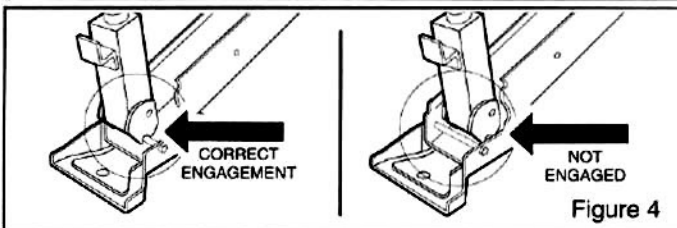

Figure 4
Push the floor jack with leveling jack assembly in towards the rear of the motorhome. Pump the floor jack up until the top of the leveling jack assembly is touching the motorhome frame. At the same time make sure the holes of the small angle brackets are aligned on either side of their respective vehicle frames as shown in figure 4. It may be necessary to slide the small angle brackets from side to side to position the holes correctly.
STEP 4. Install four U-bolts over the vehicle frame as shown in figure 4 making sure the bolts fit through the corresponding holes in the small angle brackets. Install the washers and locknuts but do not tighten.
IMPORTANT: If required ground clearance is not obtained, turn crank handle counter clockwise approximately 12 complete revolutions so that the screw completely retracts into the drop leg for maximum drop leg swing down clearance. This enables the drop leg to engage with the bolt in the support leg. If at any time a drop leg cannot be fully engaged with the support leg bolt, change the location of the RV or use ramps to raise the low side. See figure 4. Then repeat steps 1 through 3.
Once again, before applying too much pressure, make sure the bottom of the drop leg is fully engaged with the bolt in the support leg. See figure 4. Turn crank until desired level is achieved. Next, crank the jack on the opposite side of the RV in the rear if the first jack cranked down was in the rear, or in the front if the first jack cranked down was in the front.